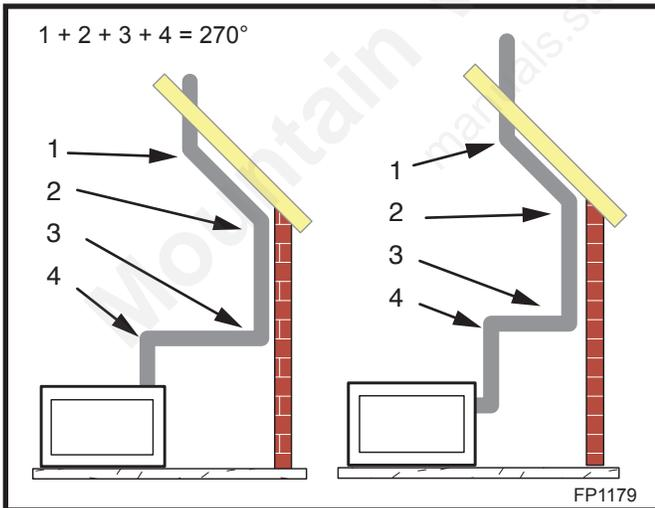

Fig. 41 Maximum elbow usage.
- Two sets of 45° elbow offsets may be used within the vertical sections. From 0 to a maximum of 8' (2.5 m) of vent pipe can be used between elbows. (Fig. 41)
- The maximum angular variation allowed in the system is 270°. (Fig. 41)